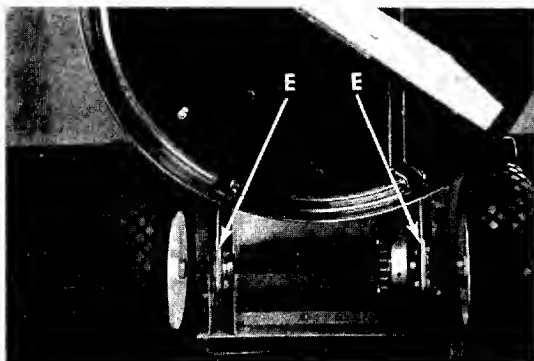

FIGURE 19. LUBRICATION
- d. **Rear Axle Bearings.** Lubricate the rear axle bearings after every 25 hours of operation with SAE 30 oil. Wipe up excessive oil with a rag. See figure 19.
- e. **Chain.** Remove the chain once each season, clean in kerosene, dry and lubricate with a rag saturated in SAE 30 oil. See figure 19.
- Step 5. Lubricate all lubrication points indicated in figure 19; then wipe the entire machine with an oiled rag in order to protect the surfaces.